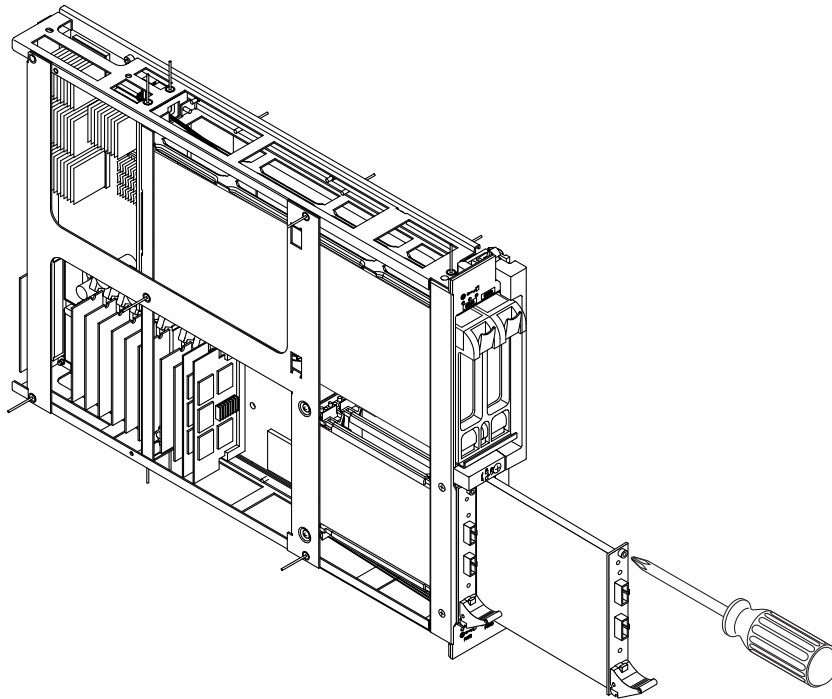

FIGURE 4-6 Replacing an Optical Module in a Sun Fire Link Assembly (Sun Fire 15K/12K System)
4. Hold the optical module by the two side edges or the front panel and slide it into the slot in between the two guides, FIGURE 4-6.